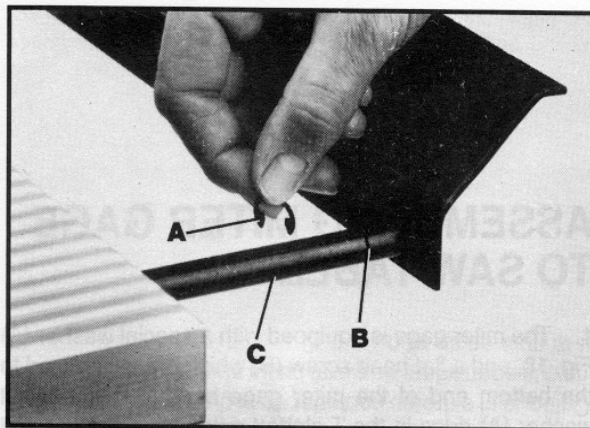

Fig. 13A
1. Two retaining rings, one of which is shown at (A) Fig. 13A, are supplied with your saw. The retaining rings (A) are to be assembled to the groove (B) located in each rear support rod (C). The retaining rings limit the inward travel of the rear support bars (C).